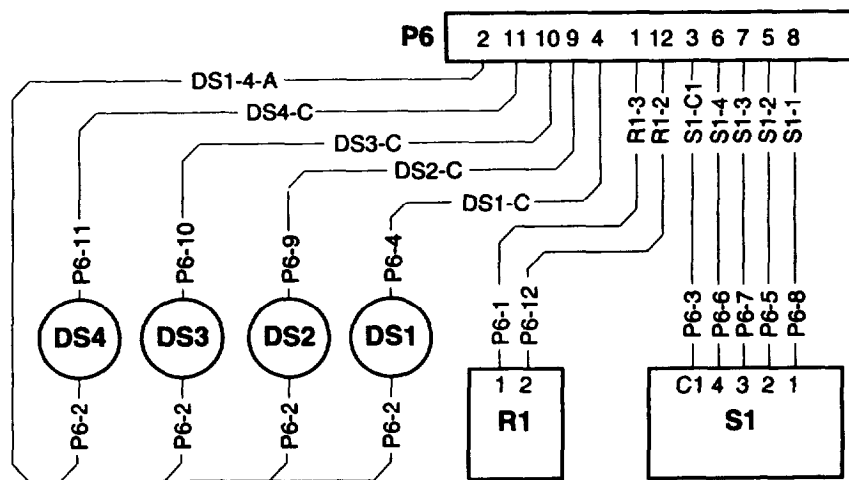
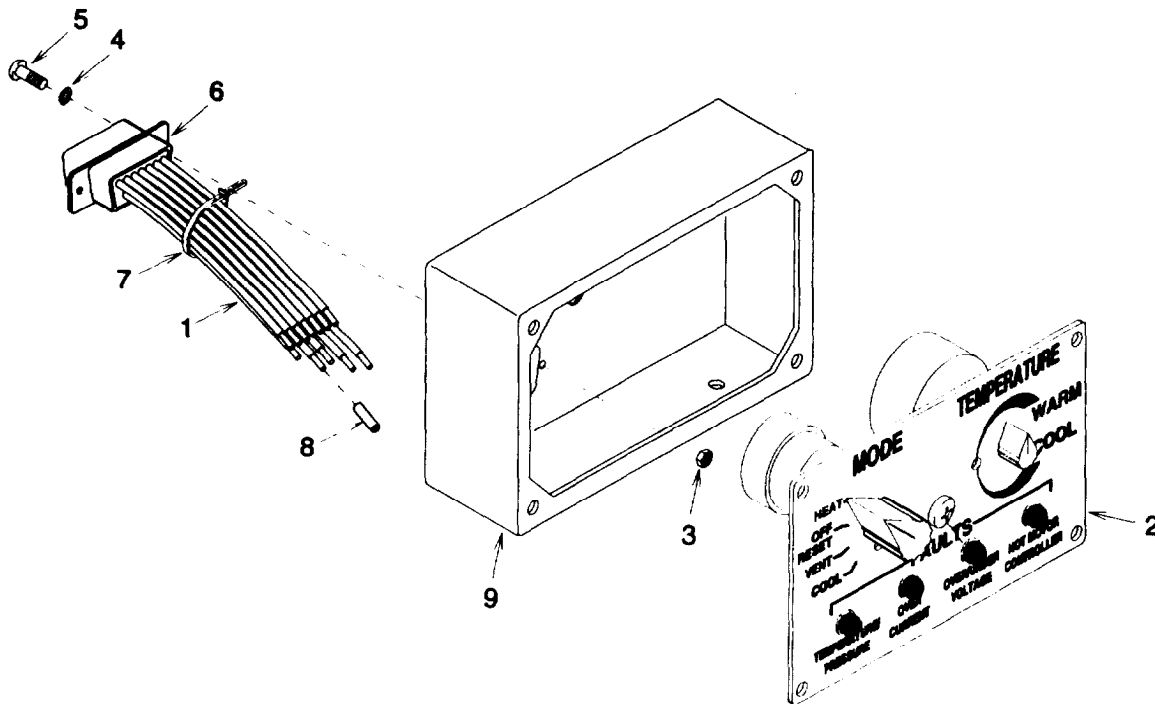

Figure 3-29. Control Panel Wiring Diagram
Figure 3-30. Control Panel Wiring Harness
- a. Testing. Using multimeter set to measure resistance, check for continuity between each connector terminal and the wire lead/terminal attached to it. If no continuity is indicated, repair or replace the wiring harness as necessary. See Figure 3-29.
- (1) Tag and disconnect wire leads (1) Figure 3-30 from the control panel (2) components. See paragraph 3-19 for soldering procedures.
- (1) Remove tiedown straps (7).
- (2) Disconnect damaged wire lead(s) (1) from connector (6) and control panel (2) component(s). See paragraph 3-19 for soldering procedures.
- (3) Refer to Table 3-4 for wire size, length, and terminal information for new wire lead (1).
- (4) Remove any remaining sleeving insulation (8).
- (5) Connect new wire lead(s) (1) to connector (6) and control panel (2) component(s) using control panel wiring diagram Figure 3-30. Use new sleeving insulation (8) as necessary. See paragraph 3-19 for soldering procedures.
- (6) Secure wire leads with tiedown straps (7) as necessary.
- (1) Carefully pass the wire leads (1) through control panel (9) opening.
- (2) Remove any remaining sleeving insulation (8).
- (3) Secure wiring harness connector (6), using two screws (5), new lock washers (4), and nuts (3).
- (4) Connect wire leads (1) to control panel (2) components using tags and control panel wiring diagram Figure 3-29. Use new sleeving insulation (8) Figure 3-30 as necessary. See paragraph 3-19 for soldering procedures. Remove tags.